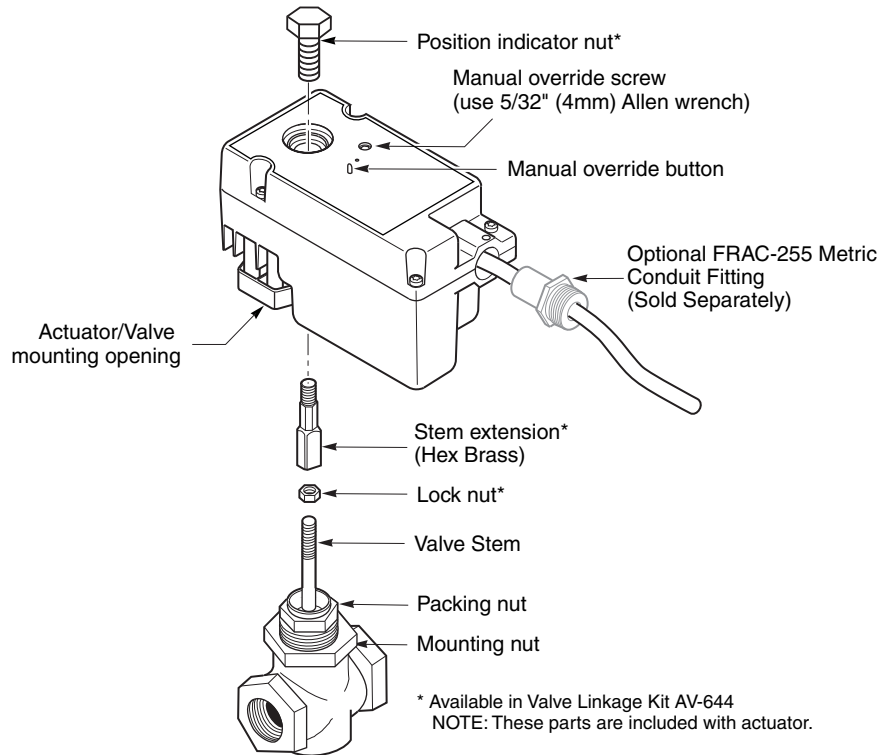

Figure-7 MF-22xx3 Series and MS-22353 Actuator Assembly Diagram.
7. Replace all the old parts with new part from the AV-644 linkage kit in reverse order, starting with the locknut and stem extension. Refer to Figure-7.